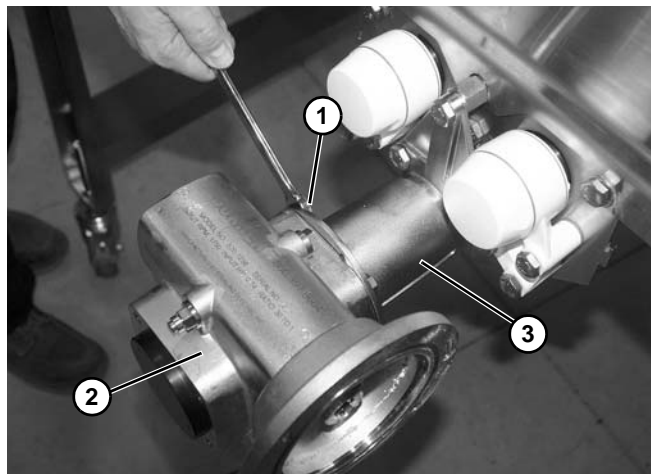

Figure 85
6. Loosen four screws (**Figure 85, item 1**) holding gear reducer (**Figure 85, item 2**) onto the motor mount (**Figure 85, item 3**).